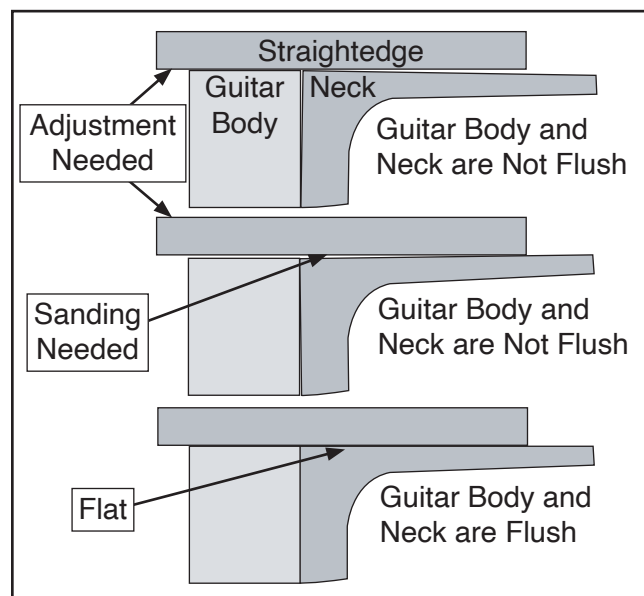

Figure 9. Aligning neck to body.
4. Using a straightedge, check to see if neck is flush with body of guitar (see **Figure 9**).